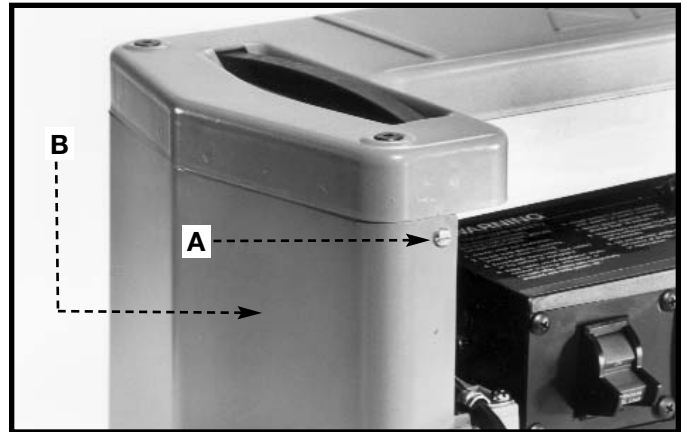

Fig. 28
1. Remove the screw (A) Fig. 28, and nut located on the other end of screw. Remove the side cover (B) from the left side of the planer.